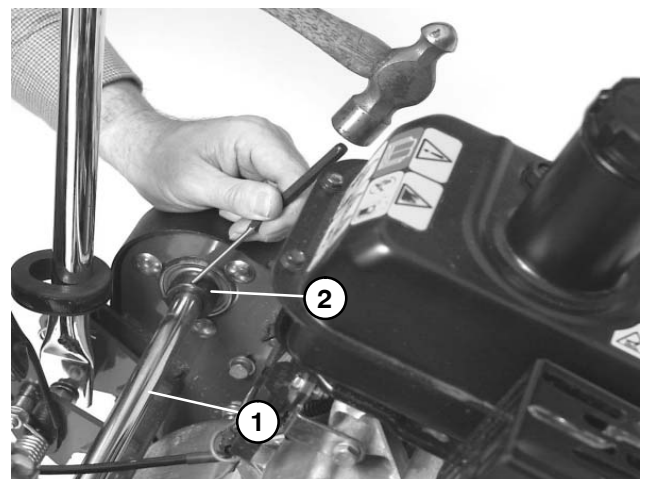

Figure 34
- B. Using setscrew hole as an impact point, unlock collar by striking it with a punch in the opposite direction of shaft rotation (Fig. 34).